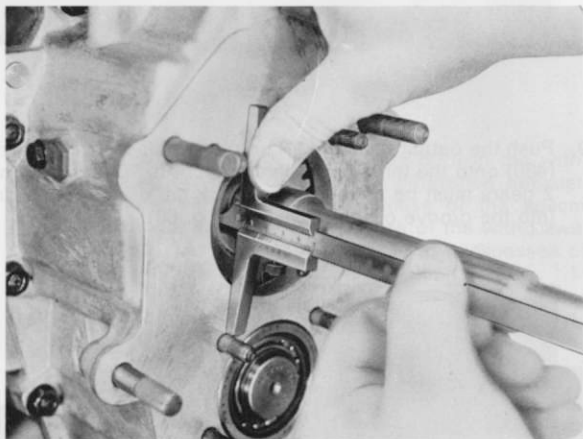

Fig. 52
1. With a plastic hammer, tap the ball bearing (423) on the output shaft into the housing until it comes up against the spring ring (425) (to ensure that measurements are not made in error).
2. With a depth gauge, measure the space from the front of the housing to the setting surface of the ball bearing (212) on the input shaft (Fig. 52). Press input shaft with hand firmly and evenly to make it lie in the bore of the synchro ring.